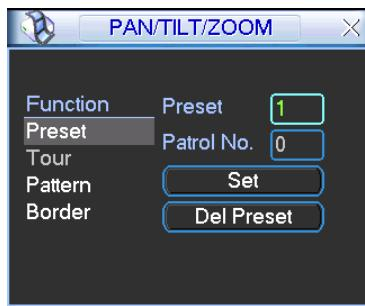
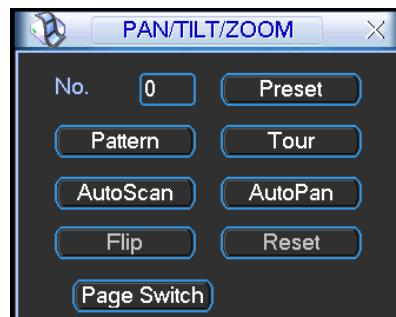
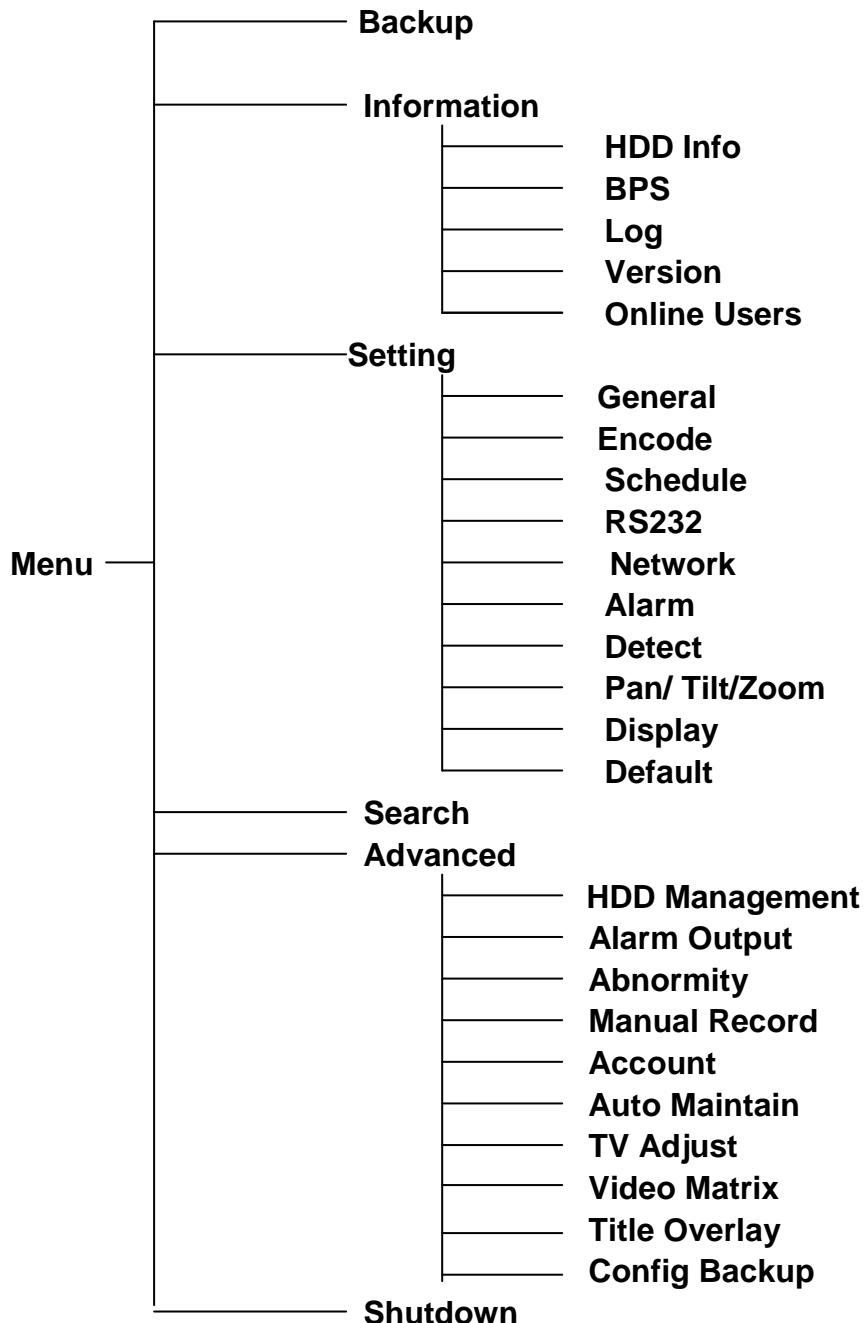

Figure 4-40
Figure 4-41
Figure 4-46
In Figure 4-37, please click the “set” button. The interface is shown as below. See Figure 4-40.
In Figure 4-37, click page switch button, the interface is shown as in Figure 4-41.
- The following setups are usually operated in the Figure 4-37, Figure 4-40 and Figure 4-41.
In Figure 4-40, click preset button and input preset number. The interface is shown as in Figure 4-42.
In Figure 4-41, please input preset number in the No. blank, and click preset button.
In Figure 4-40, input patrol (tour) number in the No. blank and click patrol button
In Figure 4-40, click pattern button and then click “begin” button. The interface is shown as in Figure 4-44. Then you can go to Figure 4-37 X to modify zoom, focus, and iris.
In Figure 4-41, click “Auto Scan” button, the system begins auto scan. Correspondingly, the auto scan button becomes Stop button. Click stop button to terminate scan operation.
In Figure 4-41, click page switch button, you can see an interface is shown as below. See Figure 4-46. Here you can set auxiliary function. The aux value has relation ship with the Aux button of the decoder.